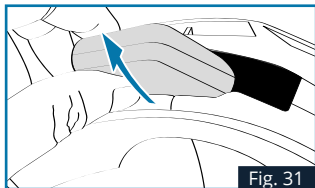

Fig. 31
2. Remove the white Styrofoam PAD in the space provided at the back of the helmet Fig. 31